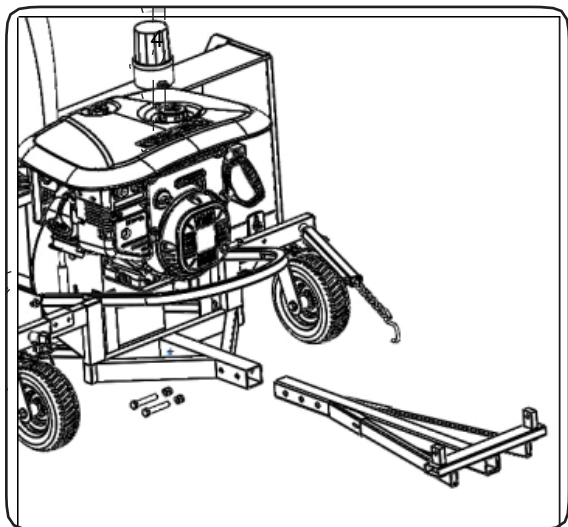

Figure 2-5
1. Insert the three-hole end of the connecting frame into the corresponding location of the snow blower. See figure 2-5.